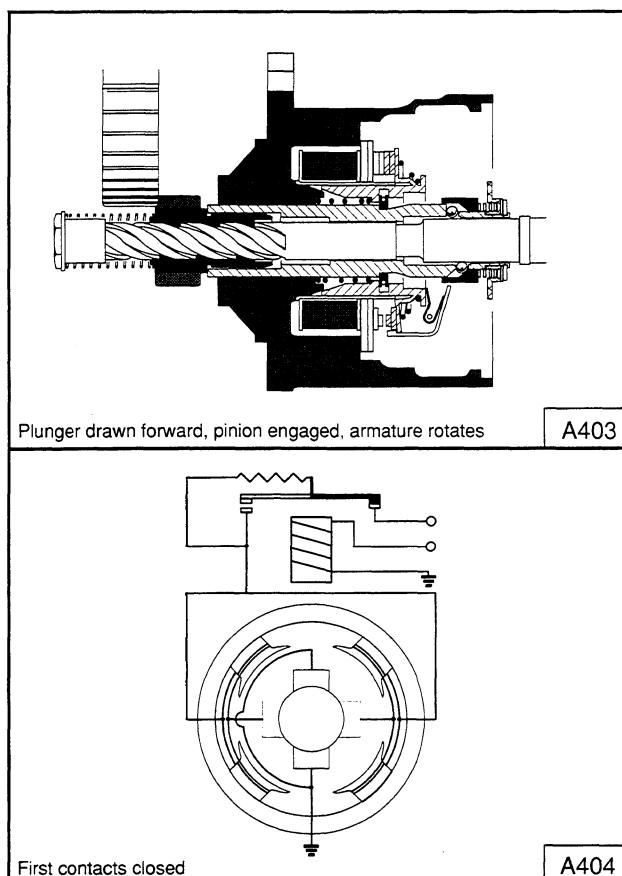

Fig. 3 Engaging Position
1.2.2 Engaging position (See Fig. 3)